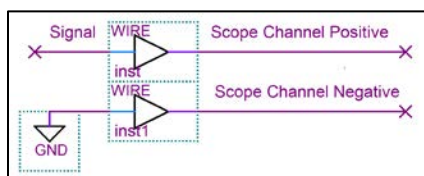

Figure 32: Exercise Circuit
**Exercise (NAD):** Open Power Supplies in a separate window so you are able to see the Oscilloscope and Power Supplies at the same time. Using Figure 1, connect the red V+ Power Supply wire to the orange Scope Channel 1 Positive wire and connect any of the black Ground wires to the orange stripped Scope Channel 1 Negative wire, as seen in Figure 32. Open Measurements in Oscilloscope and display the Average Voltage. Configure and enable the Power Supply to output 3.3V. Press Run on Oscilloscope and observe the voltage on the graph and on the Measurement tool.
1 Negative wire, as seen in Figure 32. Open Measurements in Oscilloscope and display the Average Voltage. Configure and run the Waveform Generator to output 3.3V. Press Run on Oscilloscope and observe the voltage on the graph and on the Measurement tool.
**Exercise:** Open the Pattern Generator in a separate window so you are able to see the Oscilloscope and Pattern Generator at the same time. Connect the Digital I/O 0 wire to the orange Scope Channel 1 Positive wire and connect any of the black Ground wires to the orange stripped Scope Channel 1 Negative wire, as seen in Figure 32. Open Measurements in Oscilloscope and display the Frequency and Duty. Configure the Pattern Generator to output a PP clock at 2 kHz with a 60% duty cycle and